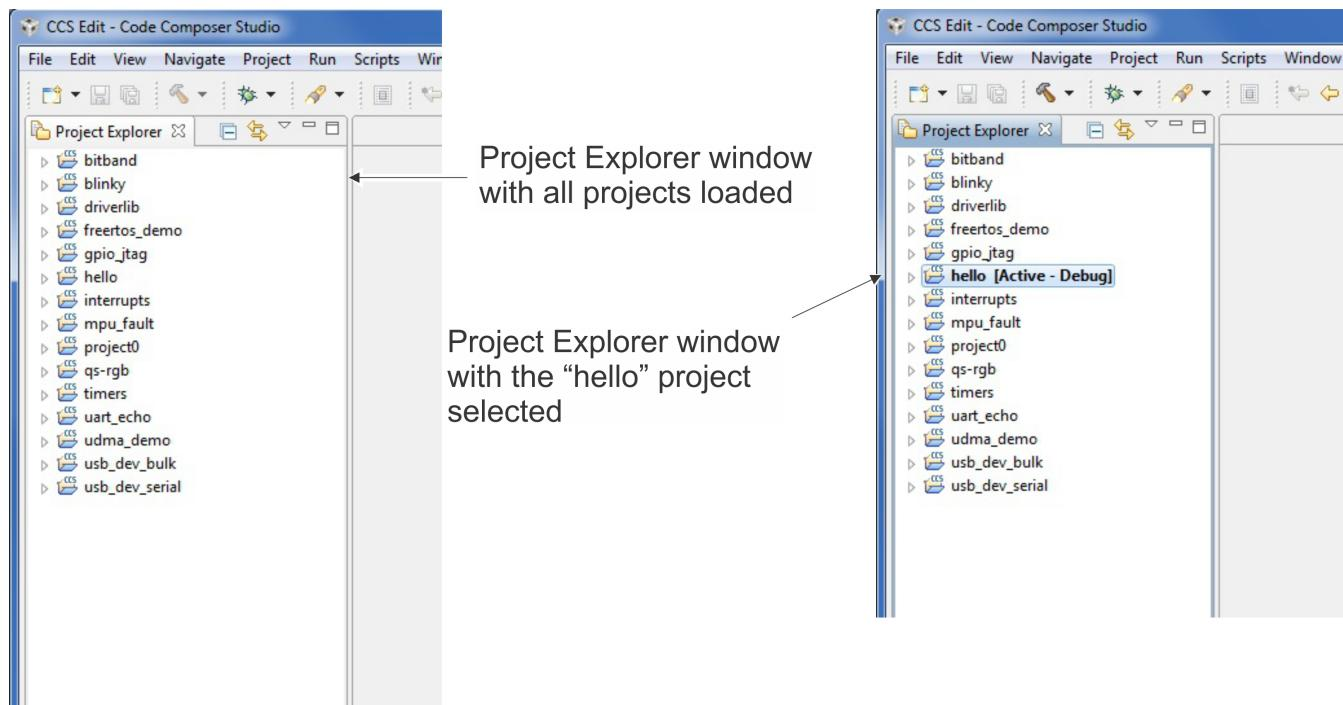

Figure 5.
1. Click the *hello* project in the Project Explorer window to set as the Active project (see Figure 5).